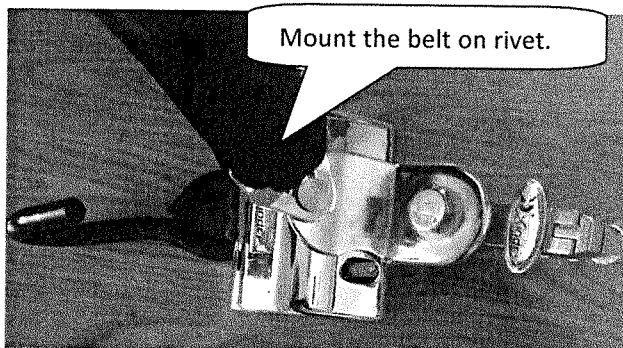

Figure 6.3.1
- Mount the two terminals of lap belt on the two rivets of rear retractors as figure 6.3.1;